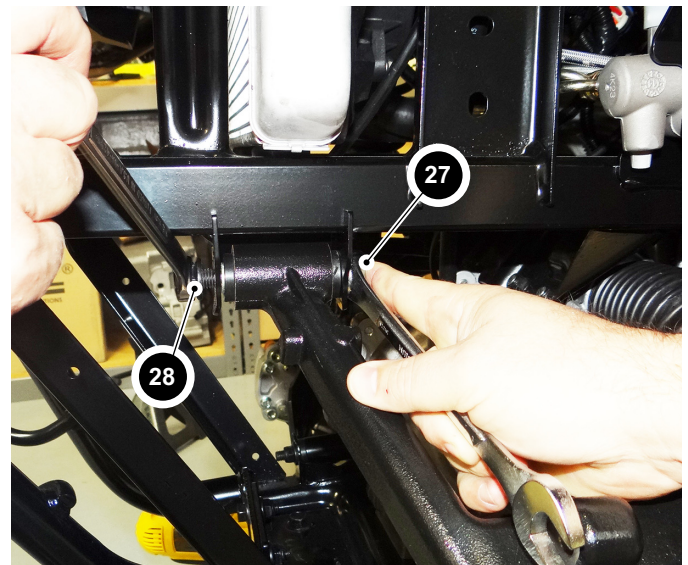

Fig. 17 Upper Control Arm Removal
- Remove the nut (33), washers (37) and bolt (46) that secure the stabilizer link to the upper control-arm (Ref. Fig. 17). Check the rubber bushings for deterioration.